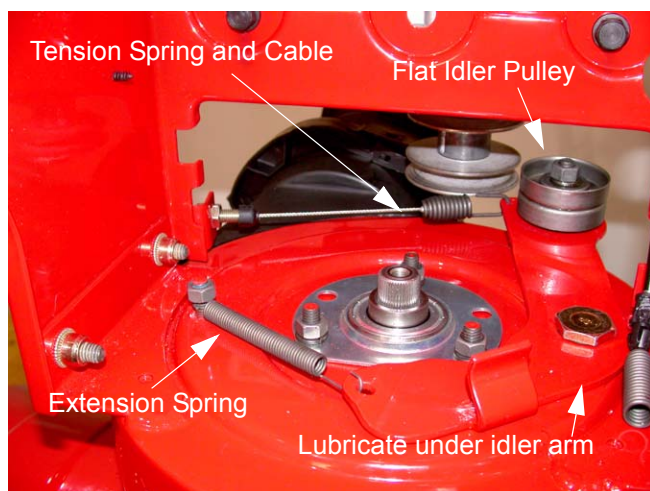

Figure 10.2
- 10.2. Inspect the idler arm, flat idler pulley, tension spring and cable for proper operation. Lubricate between the idler arm and auger housing at any point of contact. See Figure 10.2.